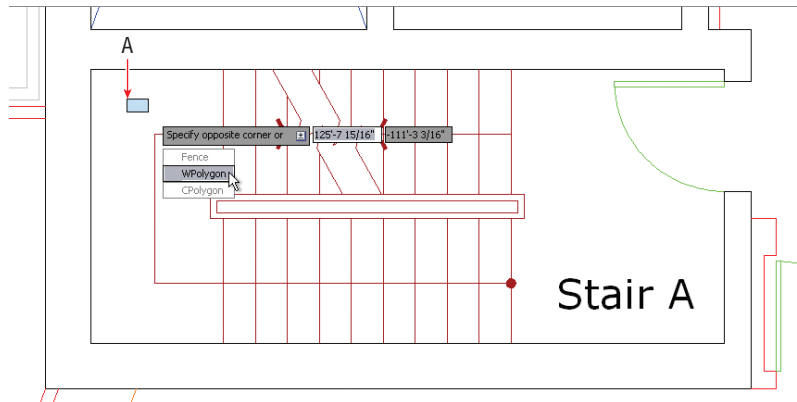

FIGURE 4.5 Selecting WPolygon selection mode from the dynamic input menu
3. Click point A, as shown in Figure 4.5. Press the down-arrow key to expand the dynamic input menu on screen. Select WPolygon.